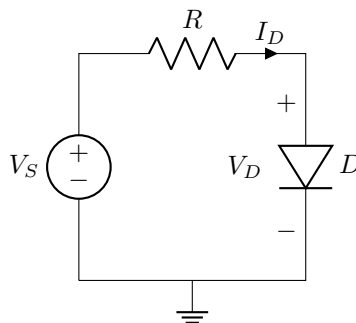

Figure 1: Forward-bias pn junction I-V characteristic measurement circuit.
In this portion of the experiment, you will measure the forward-bias current-voltage characteristics of a silicon diode. Begin by constructing the circuit shown in Figure 1 on your breadboard using the small-signal silicon diode and the 1 k Ω resistor. Ensure that the diode is oriented correctly with the anode connected toward the positive supply terminal and the cathode toward ground. Connect one DMM (Digital Multimeter) across the diode terminals to measure the diode voltage V_D directly. To measure the current through the diode I_D , you have two options: either connect the second DMM in series with the circuit (being careful to observe the current measurement limits of your meter), or measure the voltage across the resistor and calculate the current using Ohm's law ($I_D = V_R/R$). The second method is often preferred as it avoids potential issues with meter burden voltage.
2. For the circuit in Figure 1, assume $V_S = 5$ V, $R = 1$ k Ω , and the diode forward voltage is 0.7 V when conducting. Calculate (a) the voltage across the resistor, (b) the current through the diode, and (c)